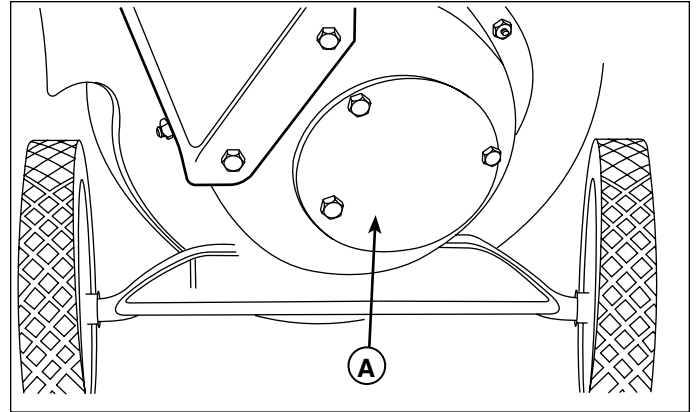

Figure 5. Inspect Shredder Hammers
2. Remove the small circular access panel (A, Figure 5) from the back of the shredder housing.